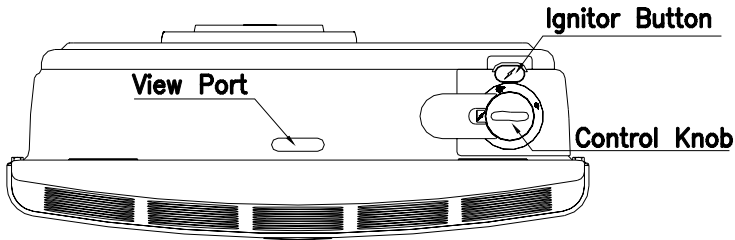

Fig. 15
### Lighting Instructions - Standard Models (Fig. 15)
- Push in the gas control knob from ● (Off) and turn it to ★ (Pilot) position (Fig. 15).